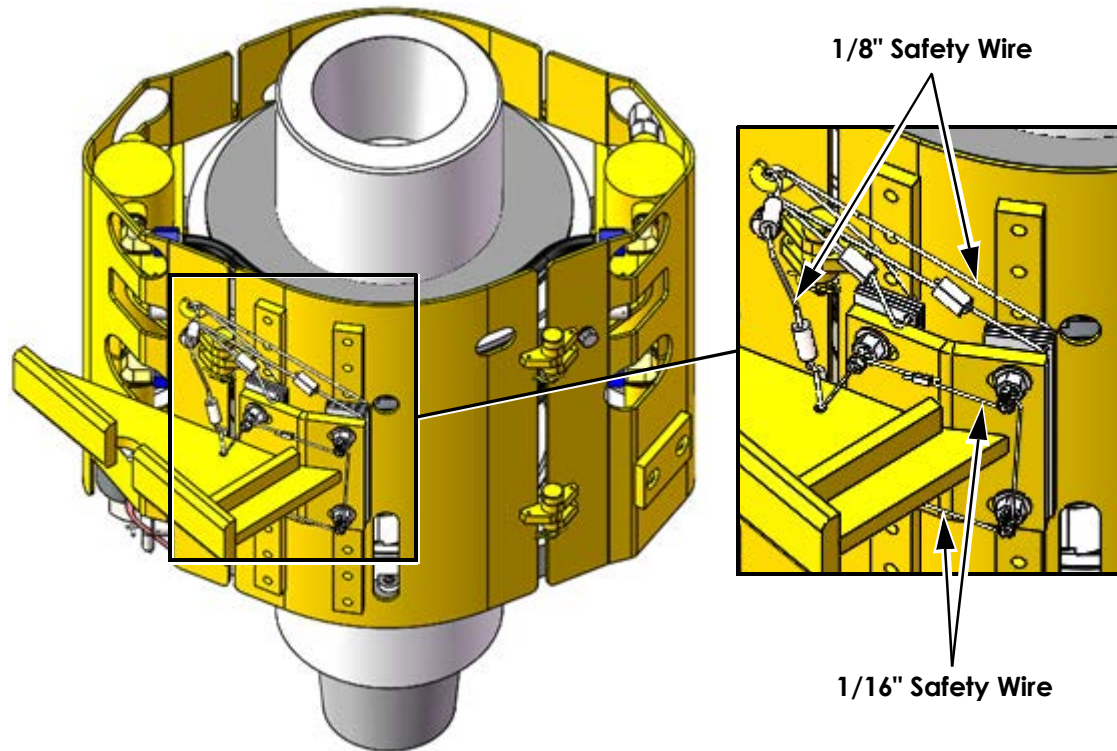

Figure 4: Safety Wire Installation
10. Install Items 4 & 5, 1/8" safety wire and ferrules around anti-rotation bracket, as shown in Figure 4 on page 5. Ensure excess slack is removed.
11. Install Items 4 & 5, 1/8" safety wire and ferrules through shims (DT25178), as shown in Figure 4 on page 5. Ensure excess slack is removed.
12. Install items 6 & 7, 1/16" safety wire and ferrules through threaded studs (DT25176), as shown in Figure 4. Ensure excess slack is removed.